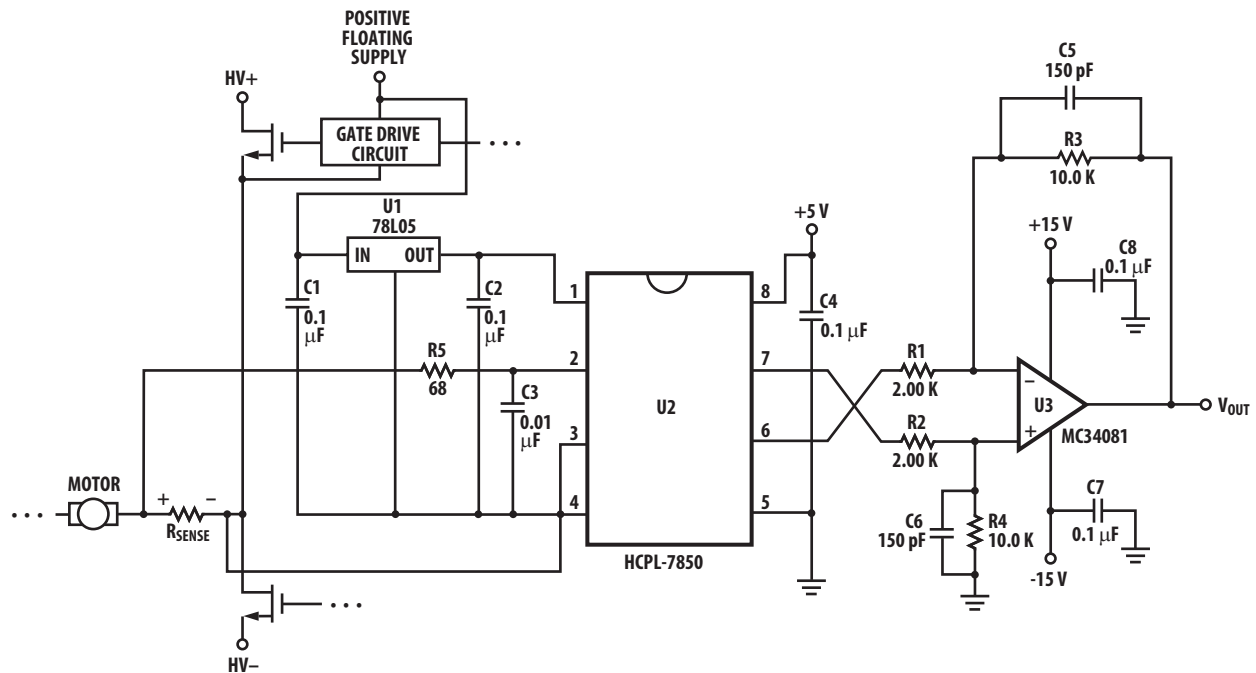

Figure 24. Recommended Application Circuit.
8. CMR (also known as IMR or Isolation Mode Rejection) specifies the minimum rate of rise of a common mode signal applied across the isolation boundary at which small output perturbations begin to occur. These output perturbations can occur with both the rising and falling edges of the common mode waveform and may be of either polarity. A CMR failure is defined as a perturbation exceeding 200 mV at the output of the recommended application circuit (Figure 24). See Applications section for more information on CMR.
The recommended application circuit is shown in Figure 24. A floating power supply (which in many applications could be the same supply that is used to drive the high-side power transistor) is regulated to 5 V using a simple three-terminal voltage regulator (U1). The voltage from the current sensing resistor, or shunt ( $R_{sense}$ ), is applied to the input of the HCPL-7850 through an RC anti-aliasing filter ( $R5$ ,  $C3$ ). And finally, the differential output of the isolation amplifier is converted to a ground-referenced single-ended output voltage with a simple differential amplifier circuit (U3 and associated components). Although the application circuit is relatively simple, a few recommendations should be followed to ensure optimal performance.
As shown in Figure 24, a 0.1  $\mu\text{F}$  bypass capacitor ( $C2$ ,  $C4$ ) should be located as close as possible to the input and output power supply pins of the HCPL-7850. The bypass capacitors are required because of the high-speed digital nature of the signals inside the isolation amplifier. A 0.01  $\mu\text{F}$  bypass capacitor ( $C3$ ) is also recommended at the input pin(s) due to the switched-capacitor nature of the input circuit. The input bypass capacitor should be at least 1000 pF to maintain gain accuracy of the isolation amplifier.
The recommended method for connecting the isolation amplifier to the shunt resistor is shown in Figure 24. Pin 2 (VIN+) is connected to the positive terminal of the shunt resistor, while pin 3 (VIN-) is shorted to pin 4 (GND1), with the power-supply return path functioning as the sense line to the negative terminal of the current shunt. This allows a single pair of wires or PC board traces to connect the isolation amplifier circuit to the shunt resistor. In some applications, however, supply currents flowing through the power-supply return path may cause offset or noise problems. In this case, better performance may be obtained by connecting pin 3 to the negative terminal of the shunt resistor separate from the power supply
The recommended application circuit (Figure 24) includes a post-amplifier circuit that serves three functions: to reference the output signal to the desired level (usually ground), to amplify the signal to appropriate levels, and to help filter output noise. The particular op-amp used in the post-amp is not critical; however, it should have low enough offset and high enough bandwidth and slew rate so that it does not adversely affect circuit performance. The offset of the op-amp should be low relative to the output offset of the HCPL-7850, or less than about 5 mV.
To maintain overall circuit bandwidth, the post-amplifier circuit should have a bandwidth at least twice the minimum bandwidth of the isolation amplifier, or about 200 kHz. To obtain a bandwidth of 200 kHz with a gain of 5, the op-amp should have a gain-bandwidth greater than 1 MHz. The post-amplifier circuit includes a pair of capacitors (C5 and C6) that form a single-pole low-pass filter. These capacitors allow the bandwidth of the post-amp to be adjusted independently of the gain and are useful for reducing the output noise from the isolation amplifier (doubling the capacitor values halves the circuit bandwidth). The component values shown in Figure 24 form a differential amplifier with a gain of 5 and a cutoff frequency of approximately 100 kHz, and were chosen as a compromise between low noise and fast response times. The overall recommended application circuit has a bandwidth of 66 kHz, a rise time of 5.2  $\mu$ s and a delay to 90% of 8.5  $\mu$ s.